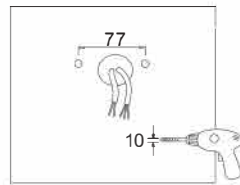

Figure 21
4. Trunnion Mount (TR)
Step 1: Drill holes on the wall as shown. (Figure 21)